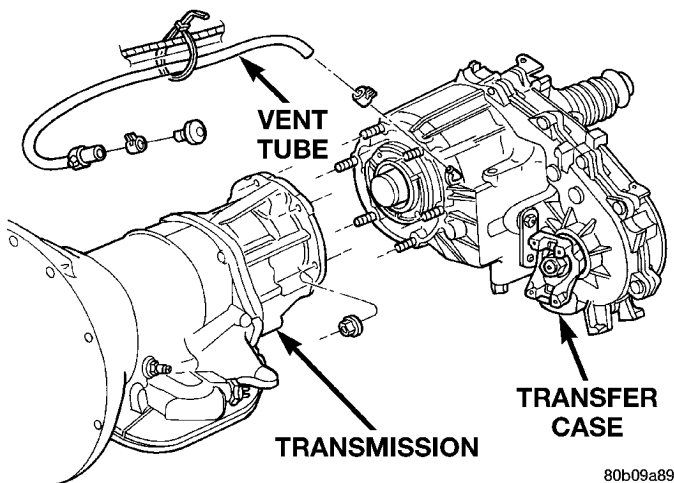

Fig. 3 Transfer Case Mounting
- (1) Shift transfer case into Neutral.
- (2) Raise vehicle.
- (3) Drain transfer case lubricant.
- (4) Mark front and rear propeller shaft yokes for alignment reference.
- (5) Support transmission with jack stand.
- (6) Remove rear crossmember, or skid plate.
- (7) Disconnect front/rear propeller shafts at transfer case.
- (8) Disconnect vehicle speed sensor wires.
- (9) Disconnect transfer case linkage rod from range lever.
- (10) Disconnect transfer case vent hose (Fig. 3) and indicator switch harness, if necessary.
- (11) Support transfer case with transmission jack.
- (12) Secure transfer case to jack with chains.
- (13) Remove nuts attaching transfer case to transmission.
- (14) Pull transfer case and jack rearward to disengage transfer case.
- (15) Remove transfer case from under vehicle.
- (1) Mount transfer case on a transmission jack.
- (2) Secure transfer case to jack with chains.
- (3) Position transfer case under vehicle.
- (4) Align transfer case and transmission shafts and install transfer case on transmission.
- (5) Install and tighten transfer case attaching nuts to 35 N·m (26 ft. lbs.) torque (Fig. 3).
- (6) Connect vehicle speed sensor wires, and vent hose.
- (7) Connect indicator switch harness to transfer case switch, if necessary. Secure wire harness to clips on transfer case.
(8) Align and connect propeller shafts. Refer to Group 3, Differential and Driveline, for proper procedures and specifications.
(9) Fill transfer case with correct fluid. Check transmission fluid level. Correct as necessary.
(10) Install rear crossmember, or skid plate. Tighten crossmember bolts to 41 N·m (30 ft. lbs.) torque.
(11) Remove transmission jack and support stand.
(12) Connect shift rod to transfer case range lever.
(13) Adjust transfer case shift linkage.
(14) Lower vehicle and verify transfer case shift operation.